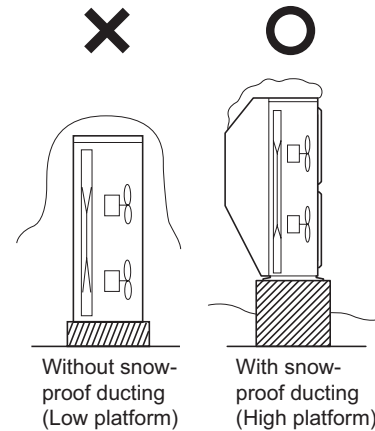

Fig. 1-10
- (1) The platform should be higher than the max. snow depth. (Fig. 1-10)
- (2) The 2 anchoring feet of the outdoor unit should be used for the platform, and the platform should be installed beneath the air intake side of outdoor unit.
- (3) The platform foundation must be firm and the unit must be secured with anchor bolts.
- (4) In case of installation on a roof subject to strong wind, countermeasures must be taken to prevent the unit from being blown over.